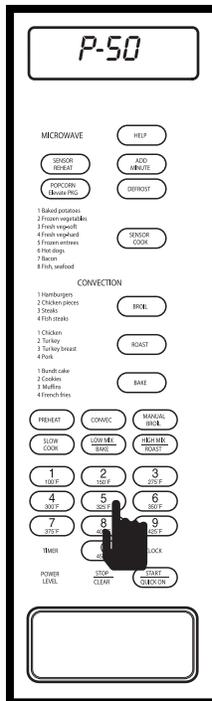

Figure 3-42.
4. Press the number 5 key once, display will flash "P-50 - ENTER - COOKING - TIME" (See Figure 3-42).